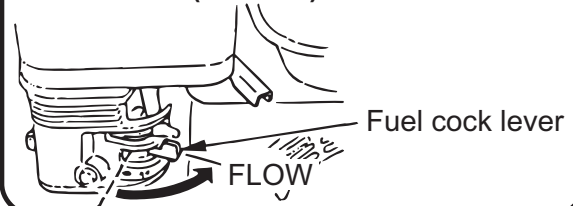

Fig.3-1
- 1 Turn the lever of the fuel cock downward and feed fuel. (Figs.3-1 & 3-2)